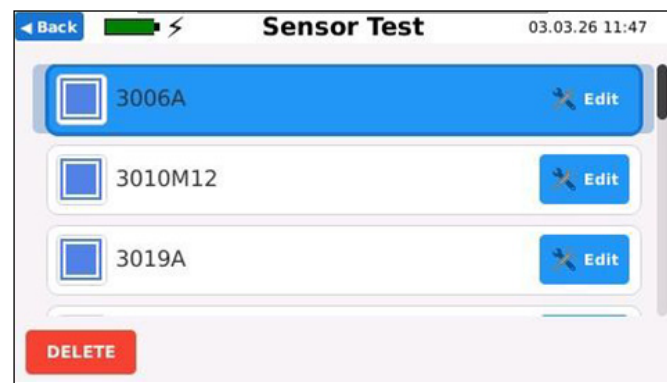

Figure 17
3. From the list of sensors available in the database (*Figure 17*), the operator can perform 3 actions: